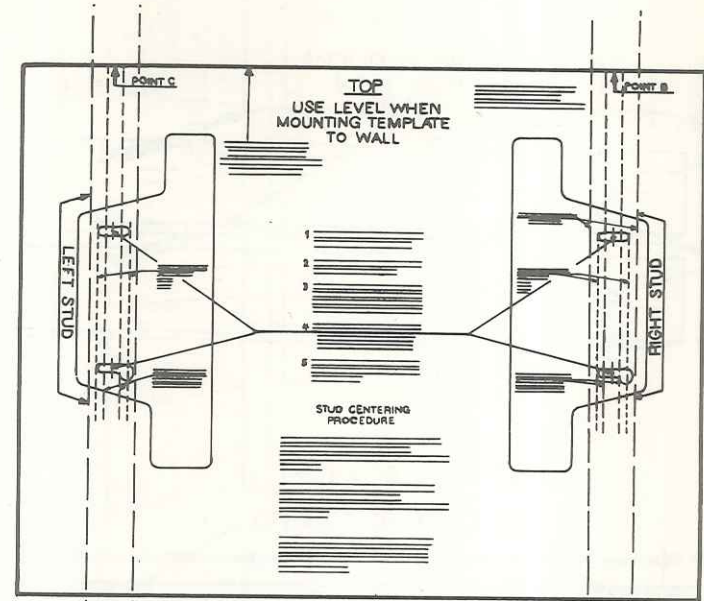

FIG. 7
- a. With the template taped to the wall as shown in Figure 7, drill the two $\frac{1}{16}$ " diameter Assurance Holes (to assure stud centering) as indicated on the template. These holes must be at least 1" deep and as straight as possible.